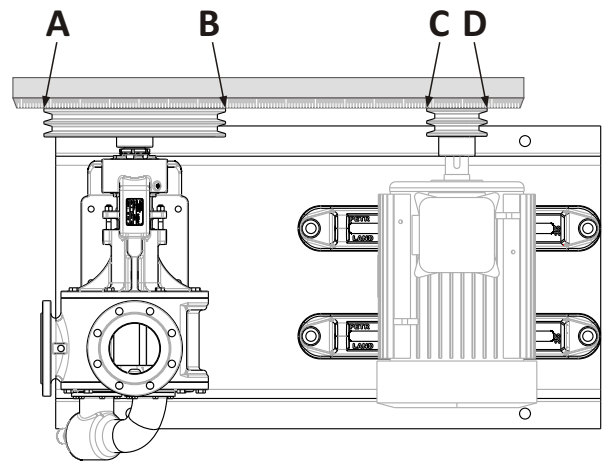

Figure 8: Correct Mounting
- Pulleys must be aligned correct for belt-pulley connections between motor and pump. (See Figure 8)
Points A,B,C and D shown of Figure 8 must be aligned for the correct mounting.